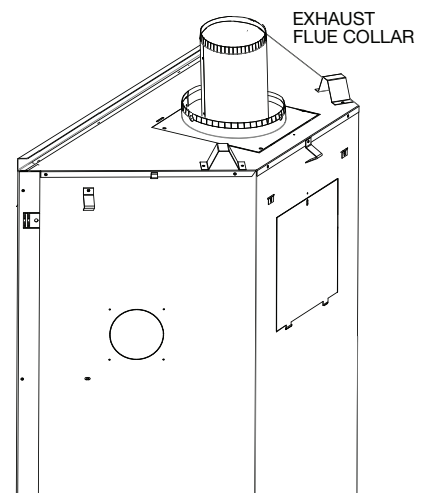

Fig. 3
- Install the 7" (177mm) collar assembly, complete with gasket, onto the rear panel around the 4" (102mm) collar with the screws provided (**Fig. 3**).
- H. From inside the firebox, install the 4" (101.6mm) exhaust collar with gasket up through the top of the firebox, and secure with the 4 hex head 3/4" black screws supplied in the manual baggie (**Fig. 3**).